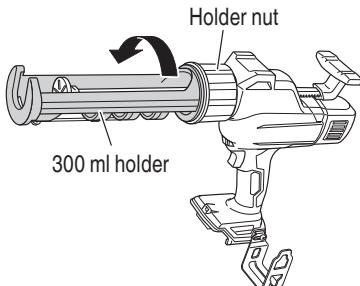

Fig. 10
(1) Hold the holder nut and turn the holder in the direction of the arrow to remove it from the main body. (Fig. 10)